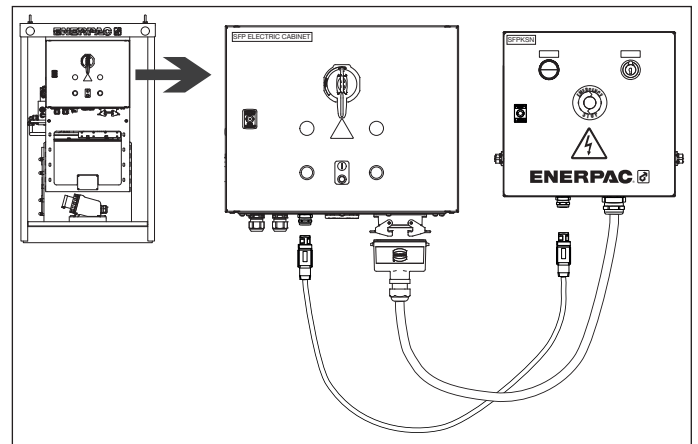

Figure 10, Electric connection of the SFPKSN and the SFP electric cabinet
3. Disconnect the pendant from the SFP and connect it into the SFPKSN in the same plug using the SFPKSN communication plug. Refer to Figure 10 for a connection scheme.